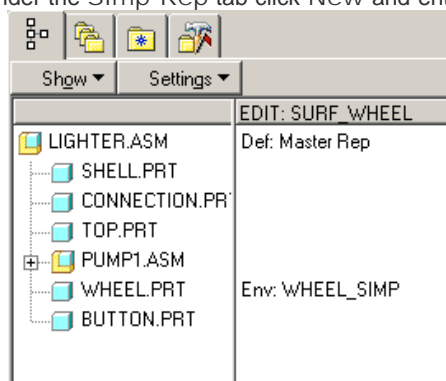

Figure 4
3. Now that the envelope has been created, it needs to be utilized in order to simplify the assembly. Click View > View Manager, and in the Simp Rep tab create a new simplified representation. Click New and name the representation "Surf_Wheel" and press ENTER. The default rule should be set to Master Rep in the Include tab. In the Substitute tab, click By Envelope from the METHOD menu, and pick "wheel" from the Select Envelope(s) section. This will automatically replace the component wheel.prt with the envelope WHEEL_SIMP as shown in Figure 4. Accept the specified changes and exit the EDIT menu. Close the View Manager. An alternate method to creating the simplified representation is to simply click View > Substitute > Envelope and double-click on WHEEL in the Select Envelope dialog